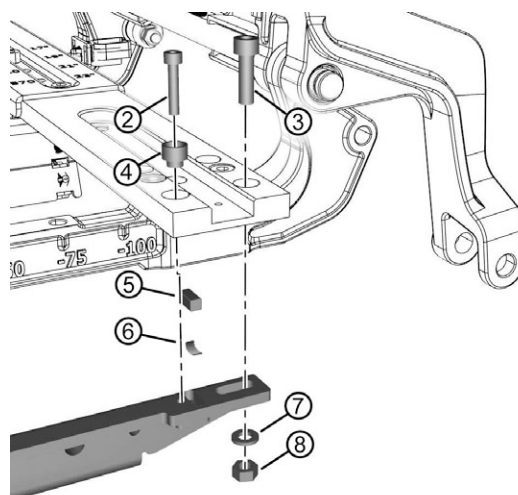

Figure 216. Assembly of the backrest actuator bracket.
1. Fit the leaf spring (6) on the actuator bracket. See fig. 216.
2. Fit the key (5) on top of the leaf spring (6). See fig. 216.
3. Fit the bushing (4) on the screw (2). See fig. 216.
6. Fit the screw (3) at the back of the bracket with washer (7) and locknut (8). See fig. 216.